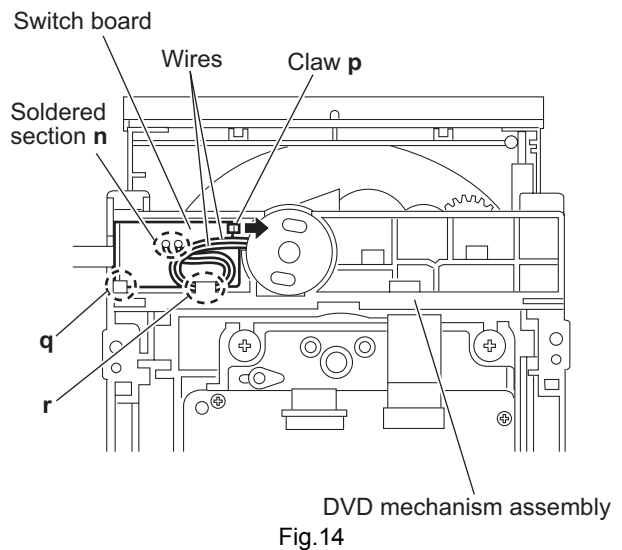

Fig.14
### 3.2.8 Removing the switch board (See Fig.14.)
### 3.2.9 Removing the motor (See Figs.14 and 15)
- (1) From the bottom side of the DVD mechanism assembly, remove the wires from the soldered section **n** on the switch board. (See Fig.14.)
Put the wires on the section **r** after attaching the motor to the DVD mechanism assembly. (See Fig.14.)